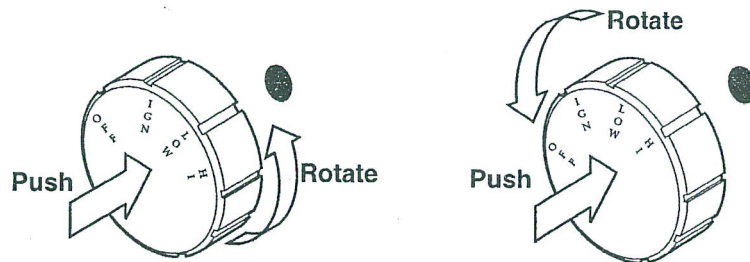

Figure 27: LOW/HIGH Position
10. Push in control knob and turn to desired setting (LOW or HIGH). The control knob must be set at either the low or high position, and the control knob will pop out when positioned correctly. Do not set the control knob at a position between LOW and HIGH. Refer to *Figure 27*.